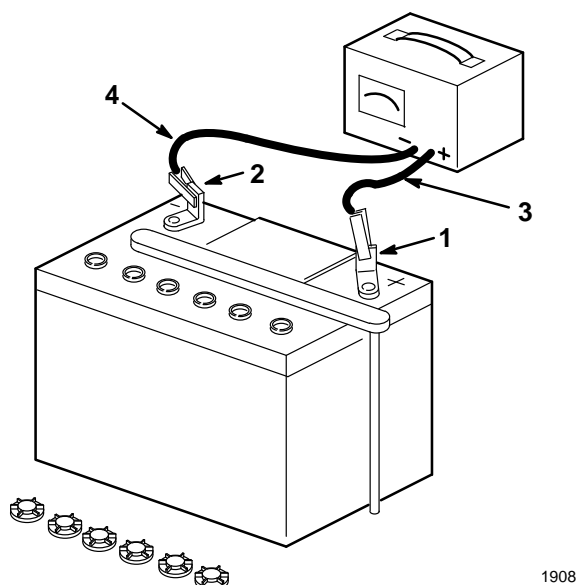

Figure 5
3. Leave the filler caps off and connect a 3 to 4 amp battery charger to the battery posts (Fig. 5). Charge the battery at a rate of 4 amperes or less for 4 hours (12 volts).
4. When the battery is fully charged, disconnect the charger from the electrical outlet and from the negative and positive battery posts (Fig. 5).